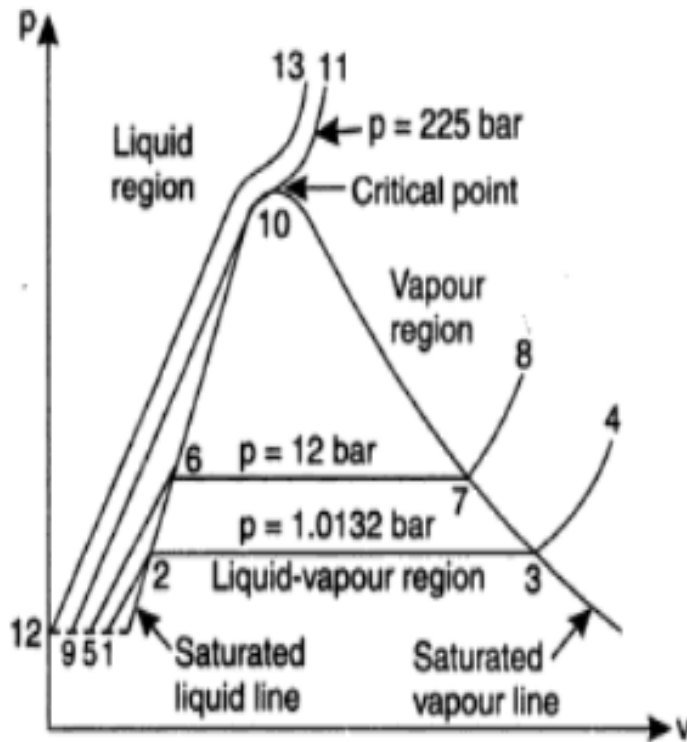

Fig. 3
- As the water is heated slowly its temperature rises until the temperature of the liquid water becomes  $100^{\circ}\text{C}$ . During the process of heating, the *volume slightly increases* as indicated by the line 1-2 on the temperature-specific volume diagram (Fig. 3). The piston starts moving upwards.
If the heating of the liquid, after it attains a temperature of  $100^{\circ}\text{C}$ , is continued it *undergoes a change in phase*. A portion of the liquid water changes into vapour as shown in Fig. 2 (ii). This state is described by the line 2–3 in Fig. 3. The amount of heat required to convert the liquid water completely into vapour under this condition is called the *heat of vapourisation*. The temperature at which vapourisation takes place at a given pressure is called the *saturation temperature* and the given pressure is called the *saturation pressure*.
During the process represented by the line 2-3 (Fig. 3) the volume increases rapidly and piston moves upwards Fig. 2 (iii).
It may be noted that if the temperature of the liquid water on cooling becomes lower than the saturation temperature for the given pressure, the liquid water is called a *sub-cooled liquid*. The point '1' (in Fig. 3) illustrates this situation, when the liquid water is cooled under atmospheric pressure to a temperature of  $20^{\circ}\text{C}$ , which is below the saturation temperature ( $100^{\circ}\text{C}$ ).